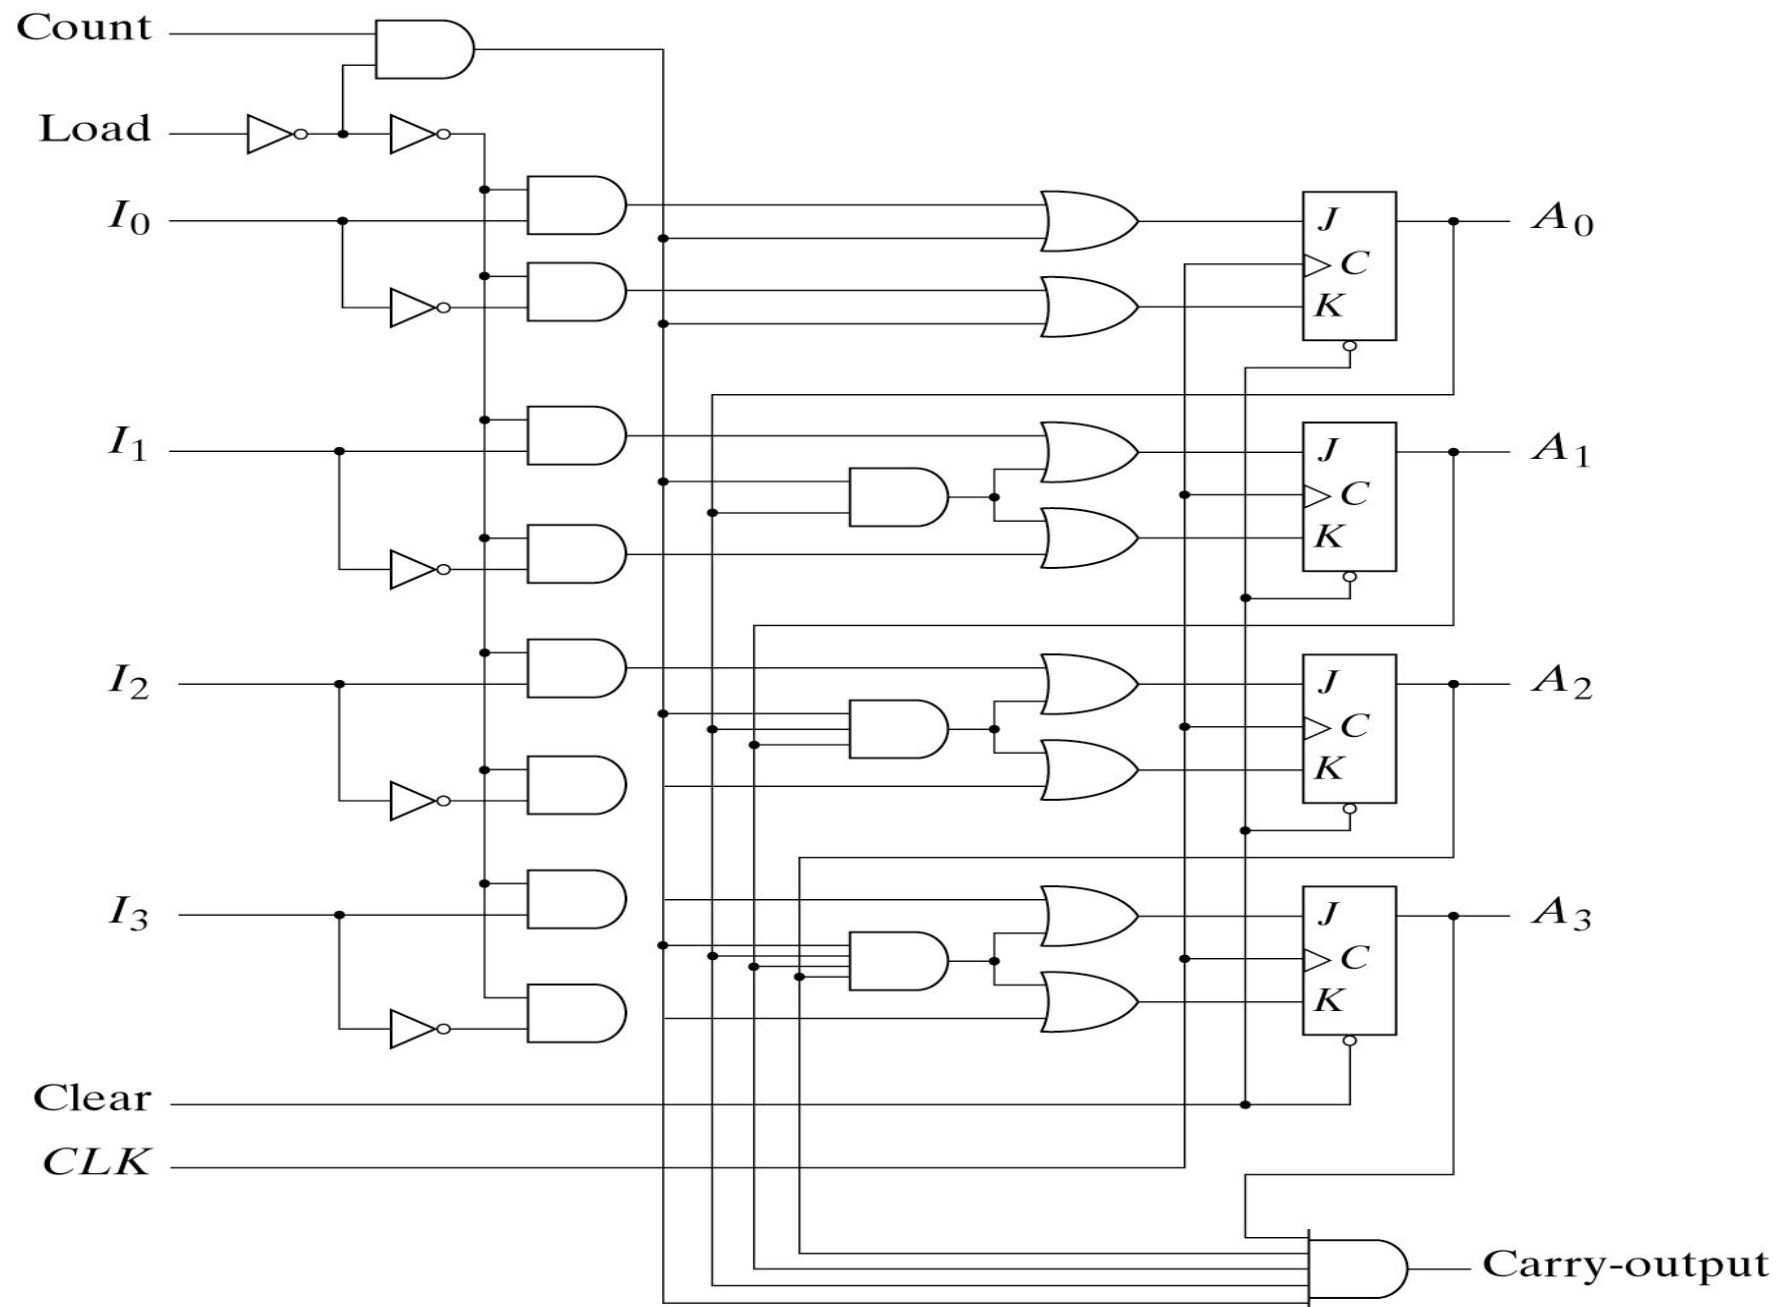

Fig. 6-14 4-Bit Binary Counter with Parallel Load
- The input load control when equal to 1 disables the count operation and causes a transfer of data from the four data inputs into the four flip-flops [Fig. 6-14]
Function Table for the Counter of Fig. 6-14